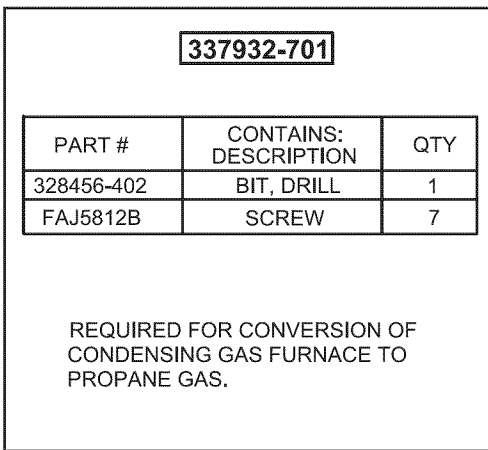

Fig. 6 - Gas Conversion Kit
1. See Fig. 6 to verify you have the correct set of mixer screws.